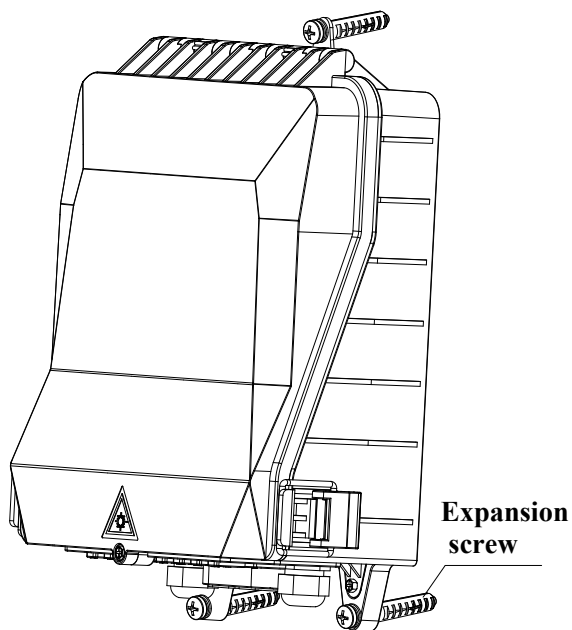

Figure 9
3.10 Pole mounting: Use the hose clamp to fix it on the pole. See Figure 9